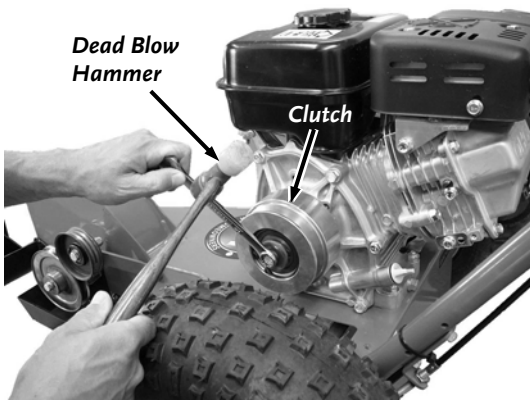

Figure 24
1. Place a 1/2" Wrench (6HP) or 5/8" Wrench (9HP) onto the Clutch Bolt and rotate the Wrench counterclockwise until you feel some resistance (**Figure 24**).